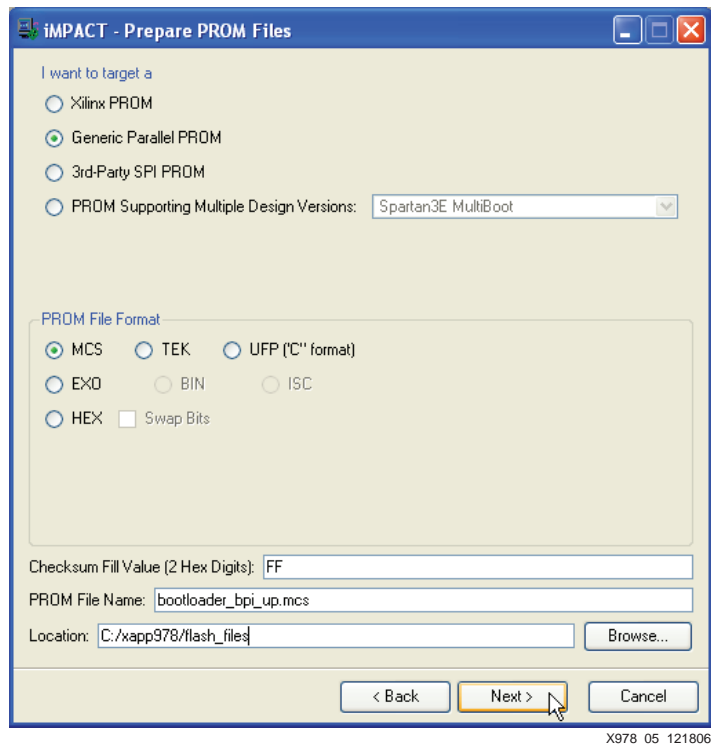

Figure 5: Prepare PROM Files Dialog Box
- In the Prepare PROM Files dialog box, select the target to be a **Generic Parallel PROM**. Ensure that the file format is selected to be **MCS**. Enter an appropriate PROM file name and location. The dialog box is shown in Figure 5. Click **Next**.